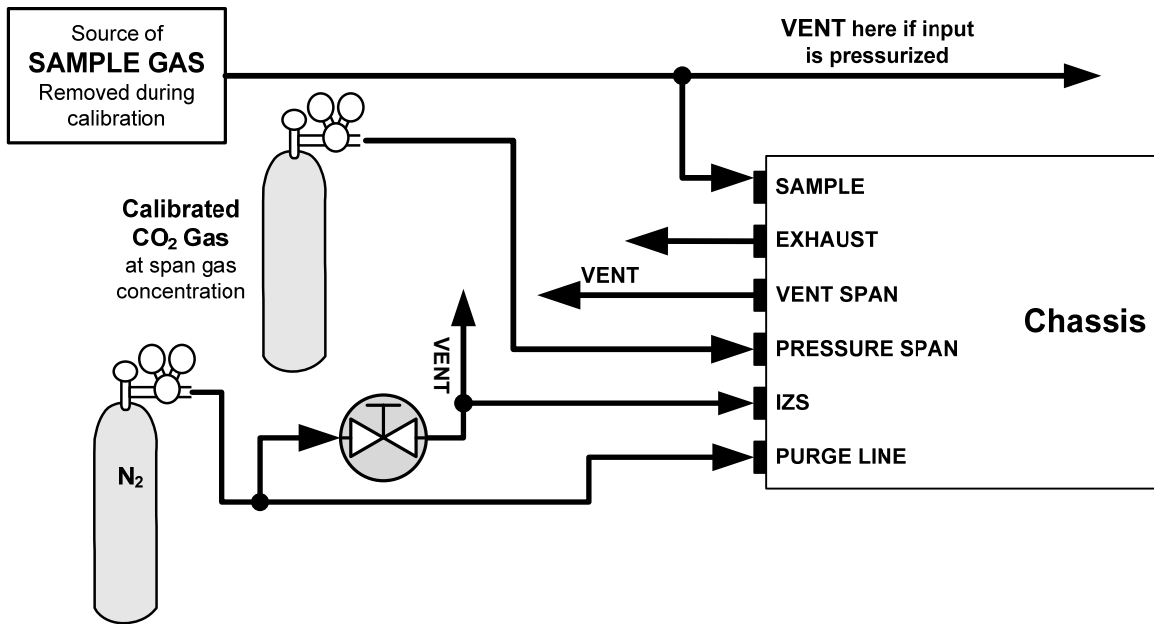

Figure 5-3: Pneumatic Connections – Ambient Zero/Pressurized Span Valves
There are four different zero/span valve option configurations (see Figure 5-3 through Figure 5-6). They all operate identically, differing only in the method used to supply calibration gas to the Analyzer.
Figure 5-3 through Figure 5-6 show the proper pneumatic connections for T360s with various optional internal valve sets installed.
**STEP ONE:** Connect the sources of Zero Air and Span Gas as shown in Figure 5-3 through Figure 5-6.